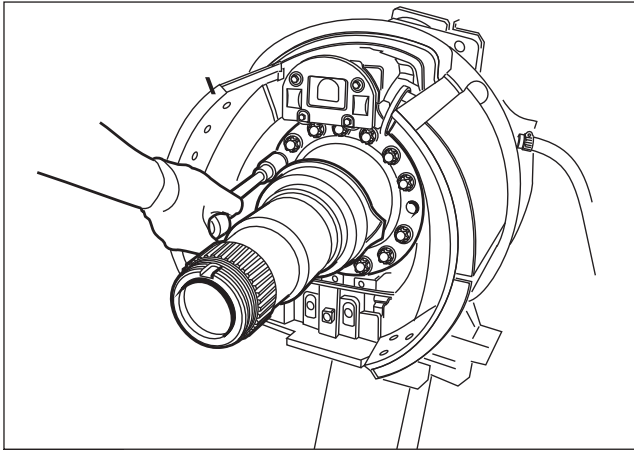

Fig. 3.9
9. Tighten the new brake screw manually (do not close at final torque). - Fig. 3.9